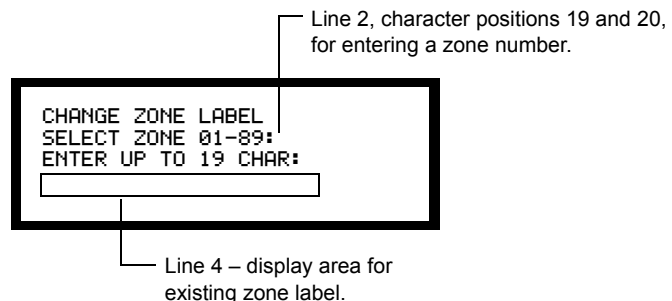

Figure 73 Zone Change Label Screen
1. From the Program Change screen (Figure 53 on page 71), select option (5=Zones) to display the Change Zone Label screen. Figure 73 shows the Change Zone Label screen: